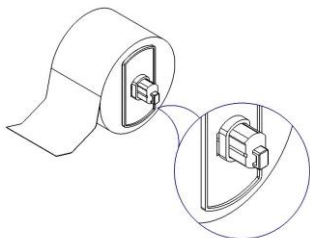

Figure 2.2.4
- 3) Install the paper roll onto the paper roll holder, and add one paper guide on each side of the paper roll (see figure 2.2.4);